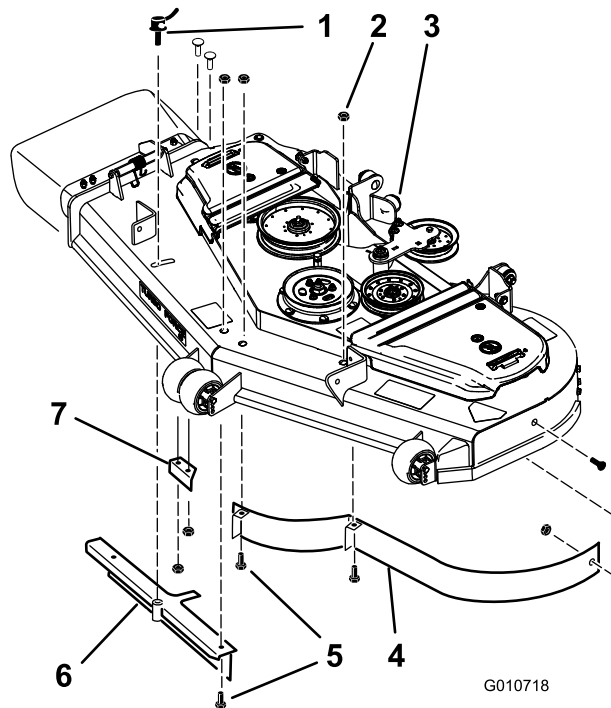
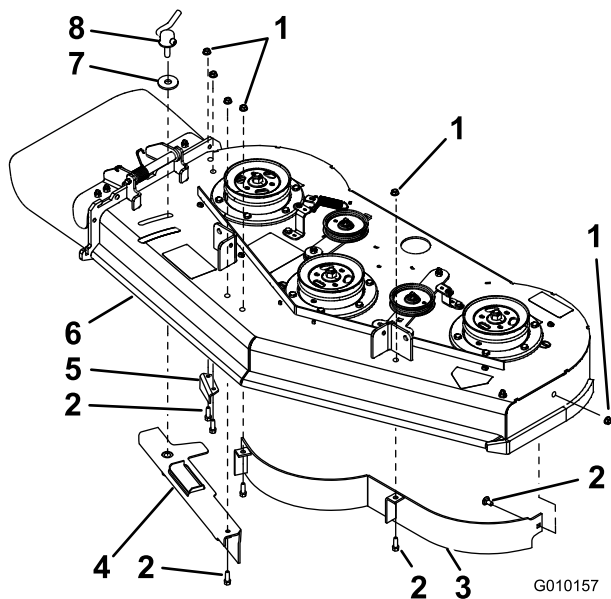

Figure 5
Figure 6
1. Remove the flange nuts holding the baffles in place (Figure 5 or Figure 6).
2. Remove the cam lock and washer by unscrewing it from the adjustable flow baffle (Figure 5 or Figure 6).
3. Remove the six bolts holding the baffles in place (Figure 5 or Figure 6).
4. After removing the discharge baffle, install the nuts and bolts back into the mower deck (Figure 5).